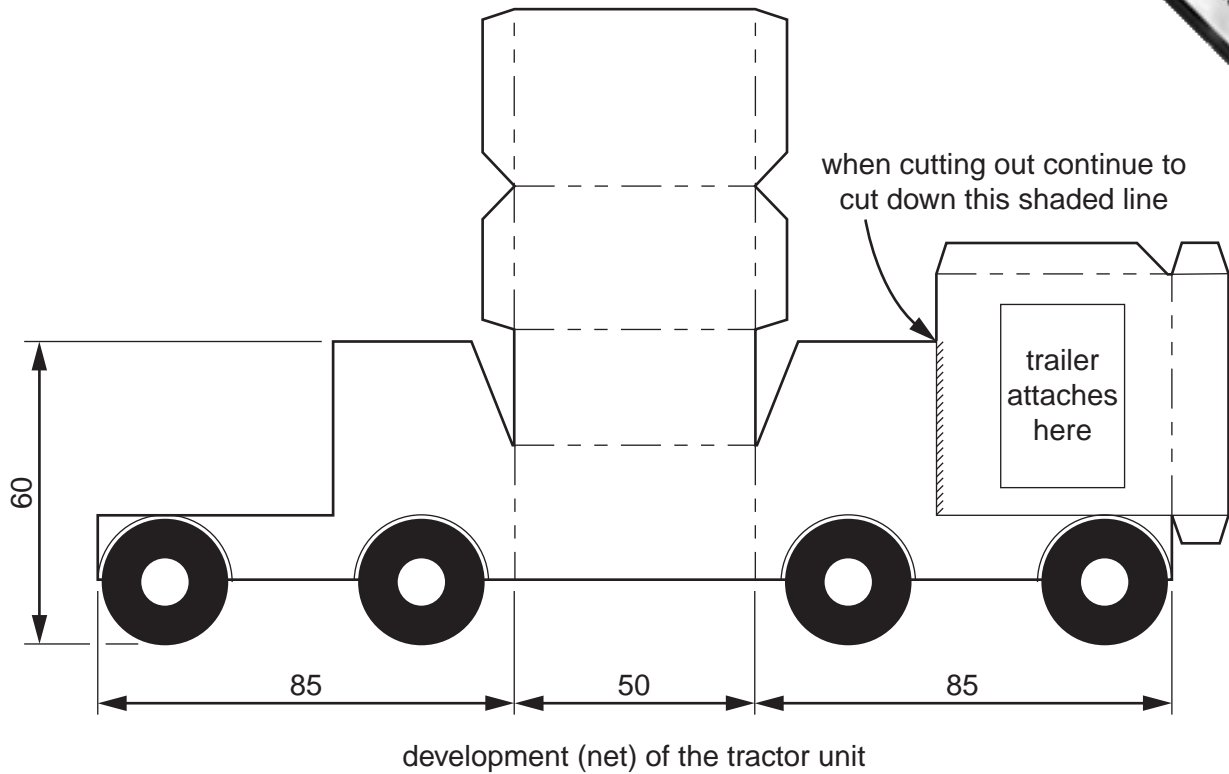

Fig. 10
- 8 Fig. 10 shows an incomplete idea for a card model of an articulated lorry.